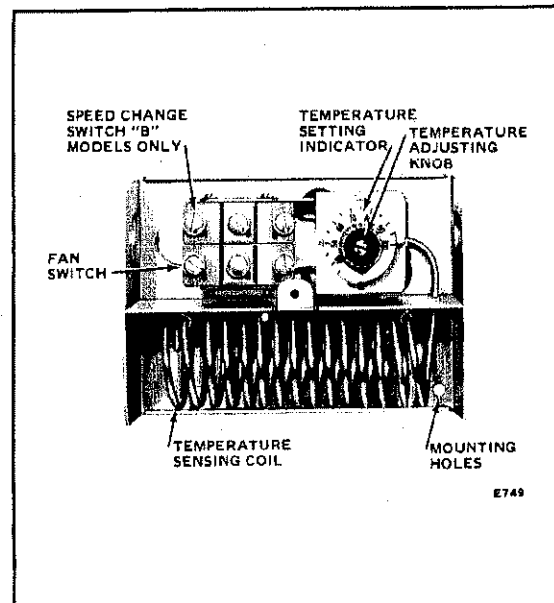

FIG. 9—T631B WITH COVER REMOVED. T631A AND C HAVE 3 WIRING TERMINALS ONLY.
2. Turn the temperature adjusting knob and scale across the indicator and back again. See Fig. 9. The controlled equipment should switch on and off.